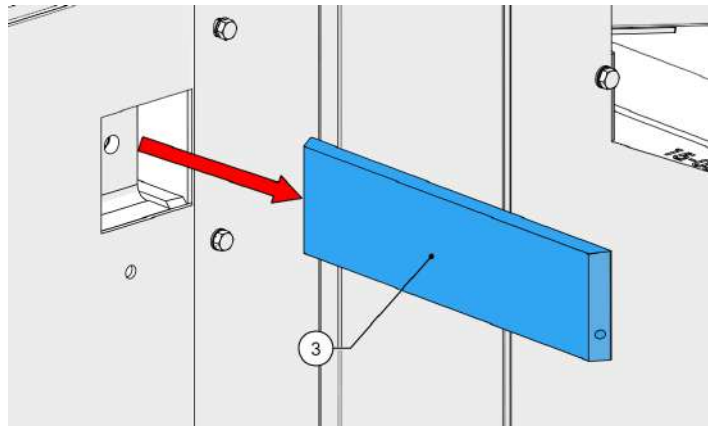

Figure 70 - Anvil removed
10. Using the slide hammer, extract the anvil (3, Figure 70) through the side of the chamber.